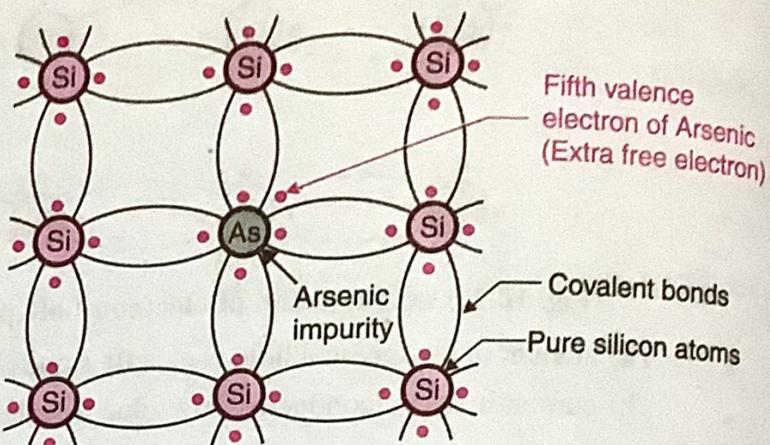

Fig. 10.3.1 : Formation of n-type semiconductor
- The effect of addition of such pentavalent impurity atoms to the silicon base is as shown in Fig. 10.3.1.
- When a pentavalent impurity such as Arsenic is added to the intrinsic semiconductor, four valence electrons of Arsenic atom form four covalent bonds with four valence electrons of the neighbouring silicon atoms, as shown in Fig. 10.3.1.